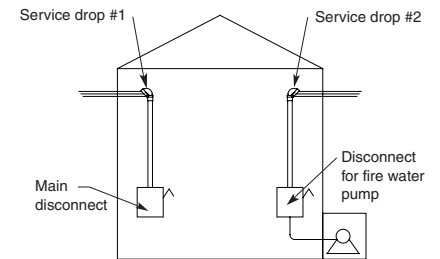

Figure 10-4. A separate service supply is permitted for fire pumps or other emergency electrical equipment.
- A completely separate service is permitted to supply a fire pump or other emergency electrical apparatus, such as lights or standby power, **Figure 10-4**.